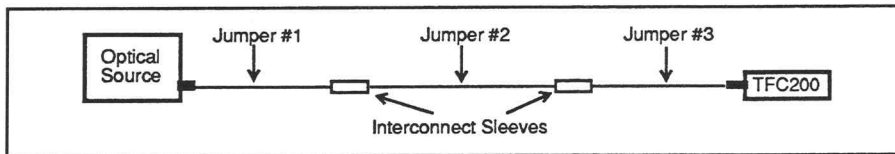

Fig. 2-2. Power Reference Level Setup.
- 1) Using three test jumpers with interconnect sleeves, connect the optical source to the TFC200 (see Fig 2.2). The test jumpers should be one to five meters long and be the same type as the fiber under test (singlemode or multimode, core and cladding size).